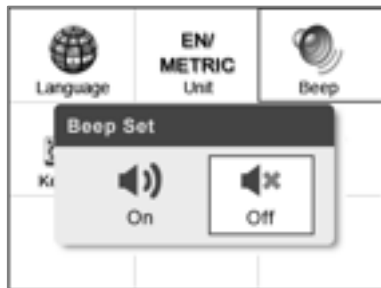

Figure 3.5
- 2) From **Beep Set** menu, use the **LEFT/RIGHT** scroll button to select **ON** or **OFF** to turn on/off the beep (Figure 3.5).